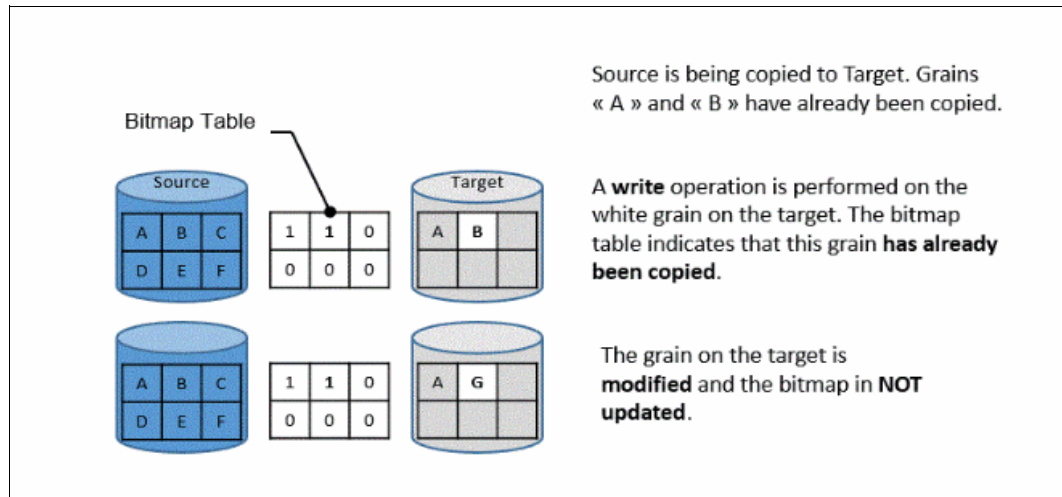

Figure 10-8 Modifying an already copied grain on the target
- ▶ If the bitmap indicates the grain to be modified on the target was copied, it is directly changed. The bitmap is *not* updated, and the grain is modified on the target with the new value, as shown in Figure 10-8.